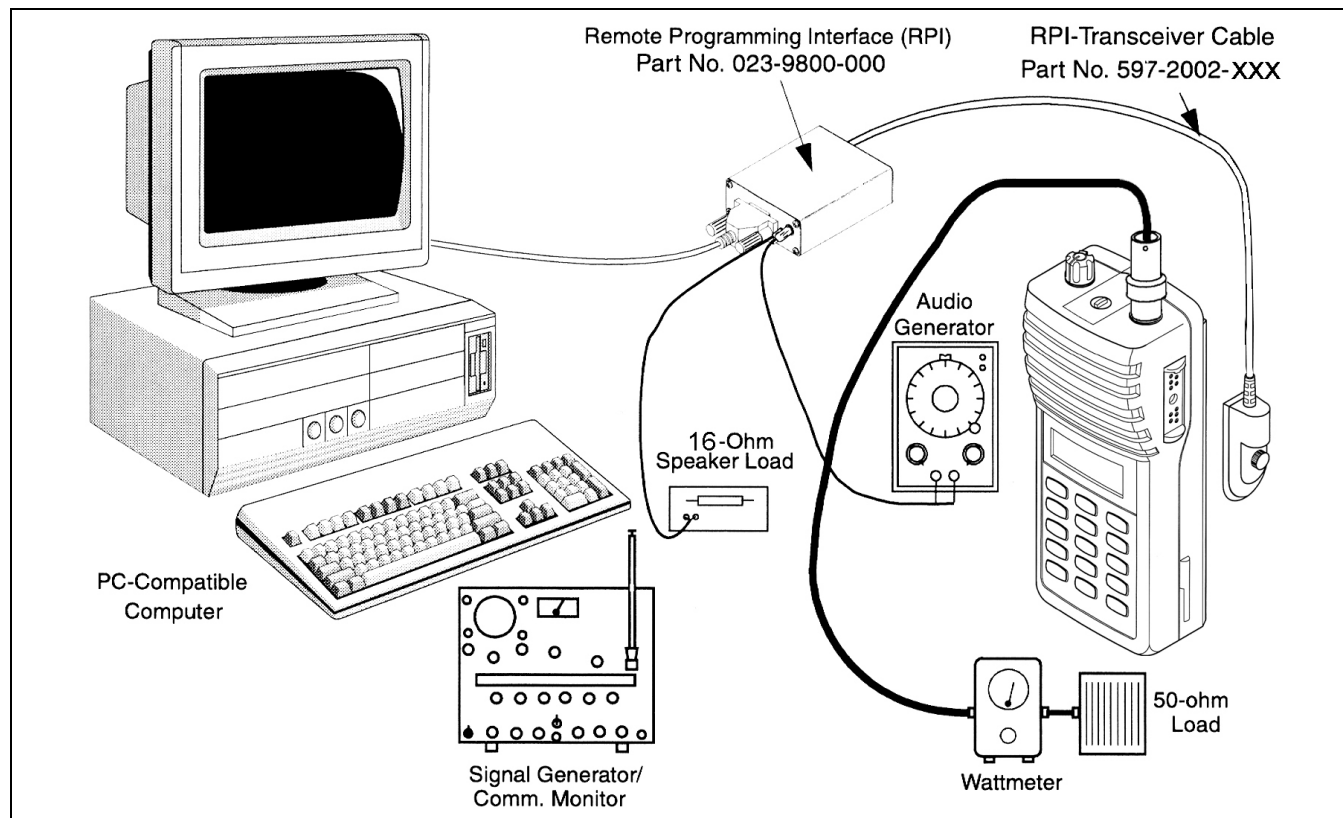

Figure 2 Alignment Setup Diagram
Connect the test setup shown in Figure 2. Additional information follows on equipment in this setup.
1. With transceiver power turned off, connect the RPI to an unused serial port of the computer. Then connect the RPI to the accessory jack of the transceiver using the cable indicated in Figure 2.
1. Connect a wattmeter and dummy load to the antenna jack as shown in Figure 2.